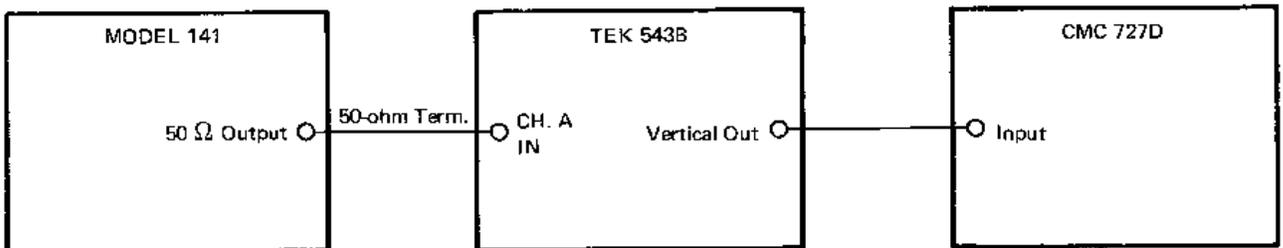

Figure 4-1. Frequency measurement test setup.
2. Connect the vertical output of the oscilloscope to the electronic counter as shown in Figure 4-1. Adjust R80 for 50 kHz.
1. Connect the Model 141, the oscilloscope, and the electronic counter as shown in Figure 4-1.